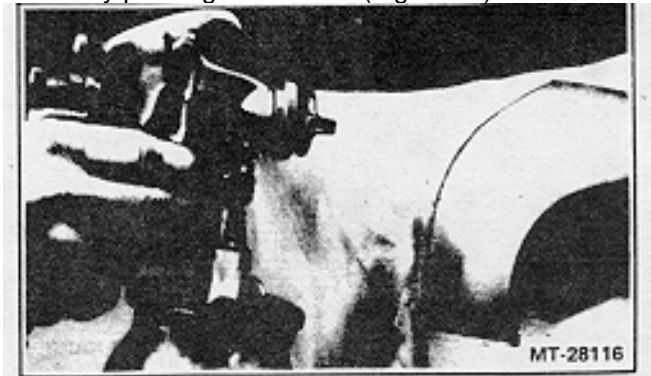

Figure 17 - Painting the Surface
- 10 Clean the area with air, and remask if necessary. Then spot prime the surface and wet sand with 400 to 600 grit sandpaper. Complete the repair by painting the surface (Figure 17).